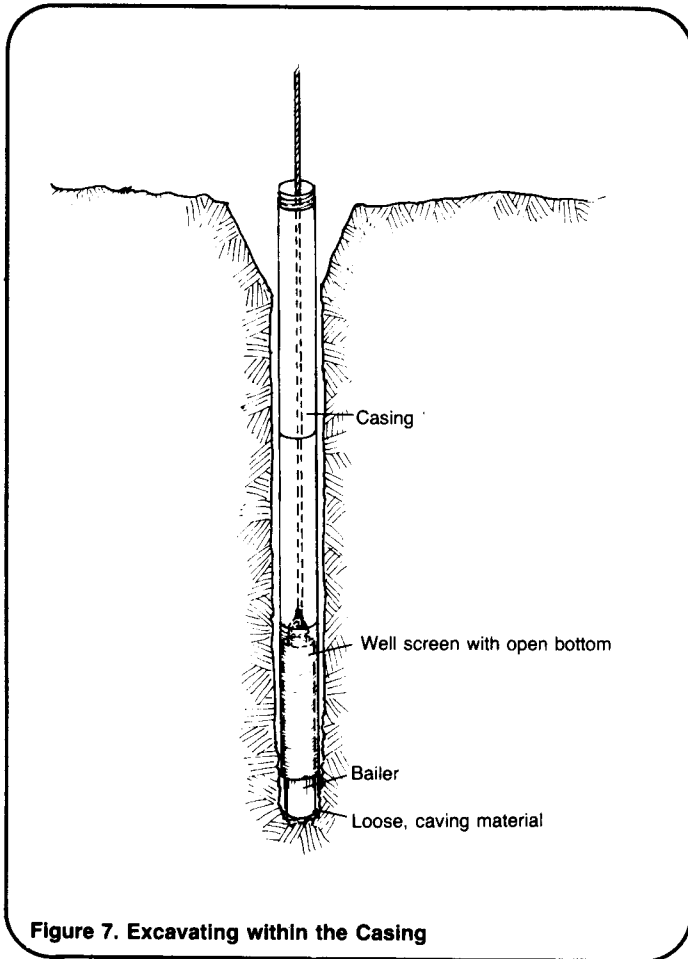

Figure 7. Excavating within the Casing
11. When you encounter a caving formation, as will be the case with most aquifers, remove the bit or bailer from the shaft. Lower the well screen, with the bottom end open, and sections of casing into the shaft. Attach the bailer to the rope, lower it inside the casing, and continue excavating. The screen and casing should sink as the loose, aquifer material is removed. Add more sections of casing as necessary. See Figure 7.